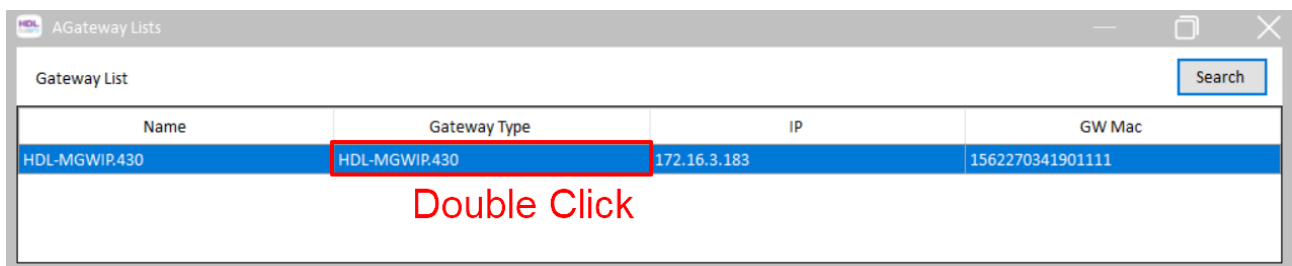

Figure 2-2 Double Click “Gateway Type”
4. As shown in Figure 2-2, double click the column “Gateway Type” to open the configuration page.